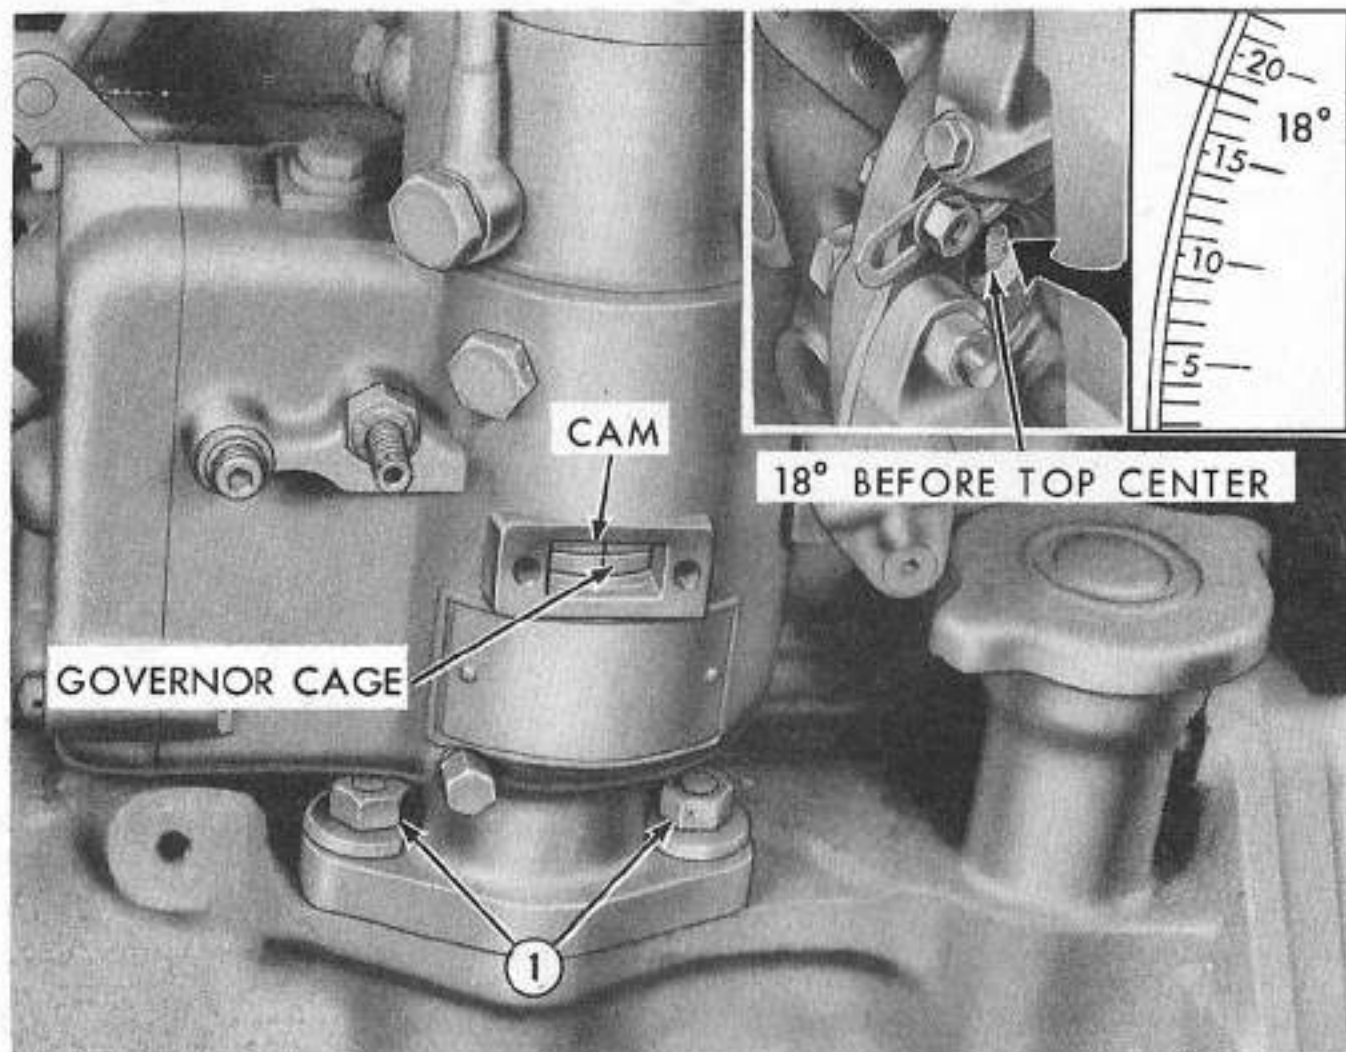

Fig. 11—Pump to Engine Timing
1. Remove the timing window cover and gasket on the fuel injection pump and rotate the engine until the timing marks align as shown in Figure 11.
3. Adjust the pump timing marks for proper alignment by loosening the pump housing at (1), Figure 11, and rotate the pump assembly until the timing marks do align. Retighten the pump assembly bolts.